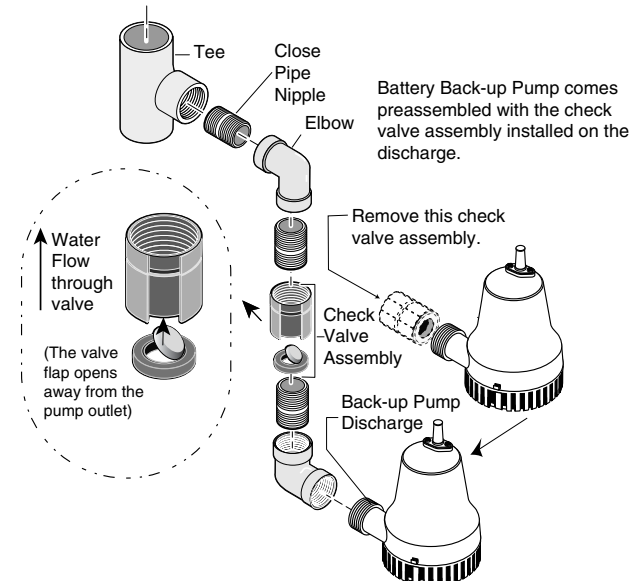

Figure 5 - Remove the pre-assembled check valve
2. Remove the check valve assembly (Key No. 4 on Page 15) from the battery back-up pump (Key No. 5) discharge and set it aside. See Figure 5. The check valve assembly will be used later, during assembly.
- NOTICE:** Make sure the check valve is installed in the correct direction. See the inset drawing in Figure 5.